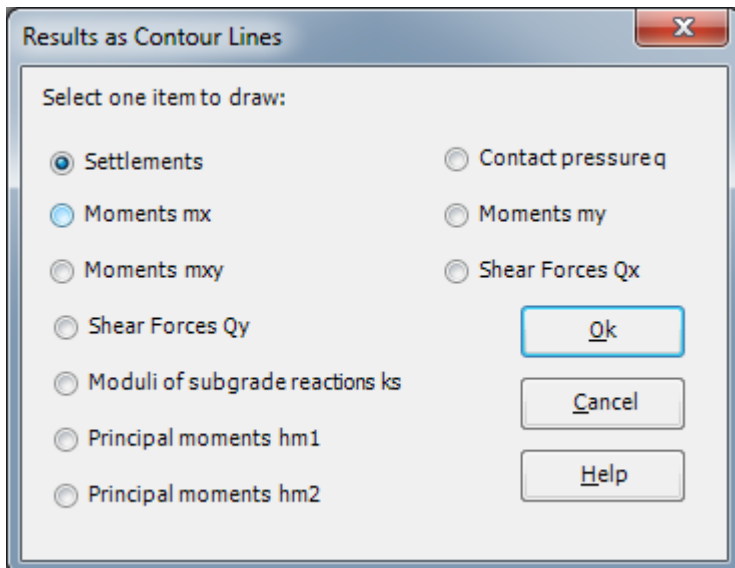

Figure 12.34 "Results as contour lines" option box
- Choose "Contour Lines" command from "Result" Tab. The following option box in Figure 12.34 appears